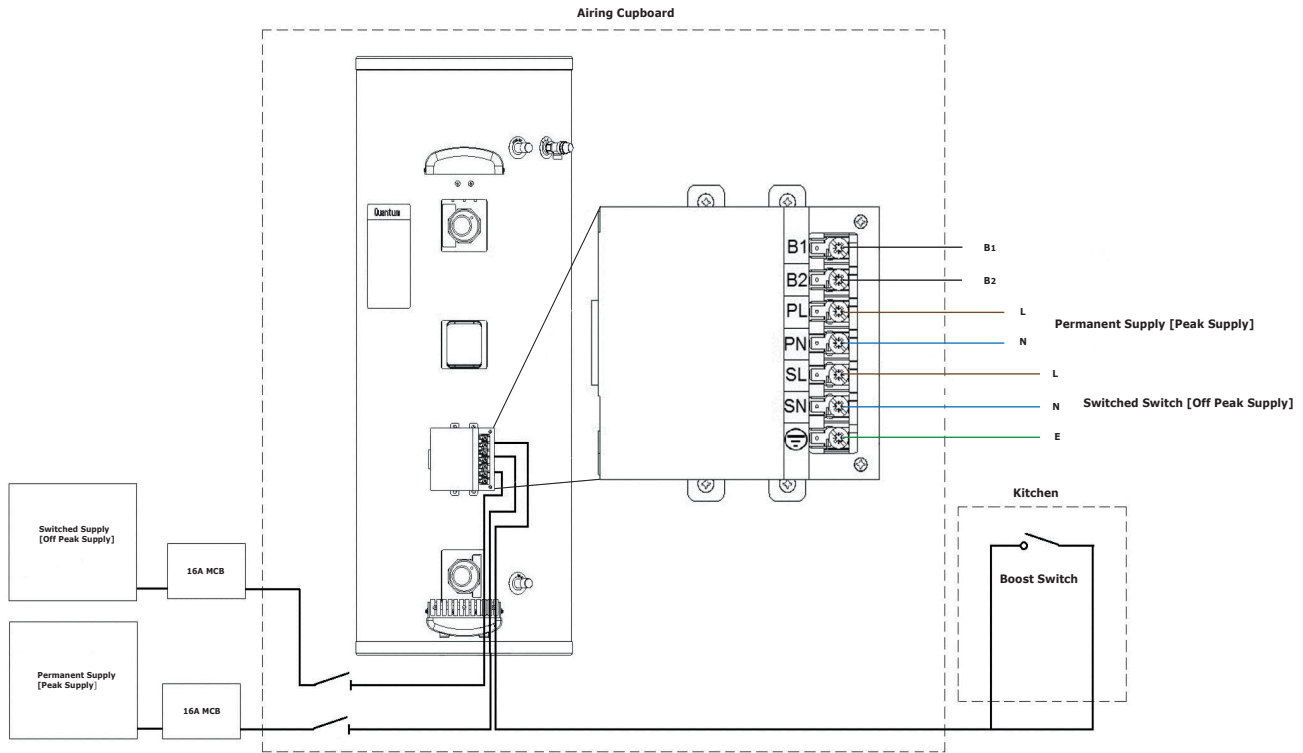

Figure 7: Off Peak Wiring Configuration
The electrical installation of this cylinder can be set-up for permanent supply or switched supply (peak and off-peak). For information on how to correctly wire either set-up please see Figures 7 or 8 in Section 6.5.2.
If an electronic timer switch from a previous installation is in place it must be replaced with a single pole toggle switch which is wired from the B1 and B2 connections as shown in Figure 7.
- Off Peak tariff heats the cylinder using the bottom immersion heater to the primary set-point whenever an off peak power supply is available. See Figure 7 for wiring configuration.